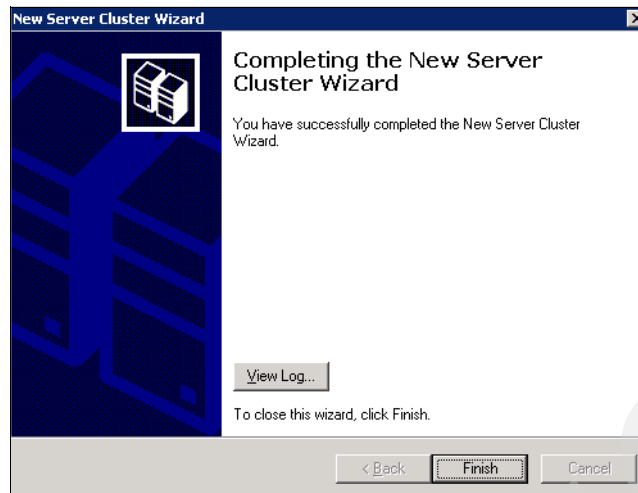

Figure 25-36 Completing the New Server Cluster Wizard
12. Once the tasks are completed, click **Next** and **Finish** (Figure 25-36) to complete the cluster installation on the first cluster node.